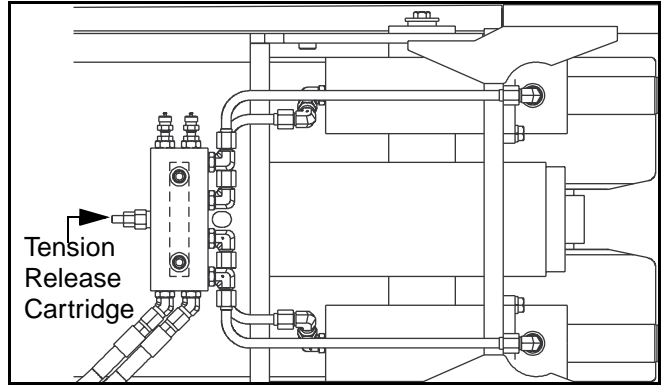

Figure 6 - 48 Release Rubber Track Tension
- 2) Loosen jam nut on tension release valve cartridge (Figure 6 - 48).